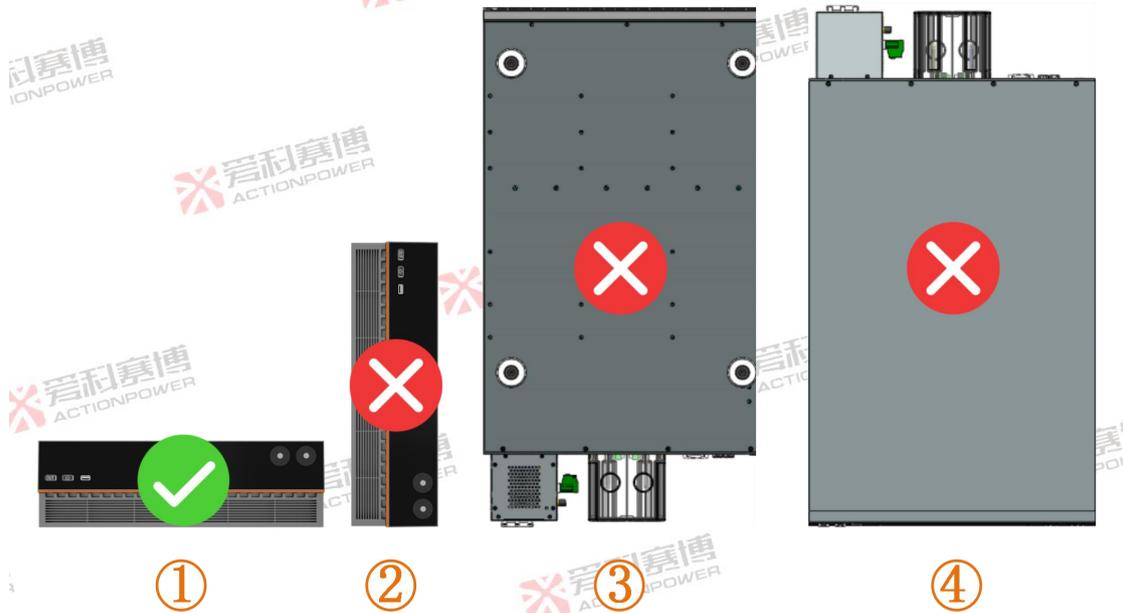

Figure 67-Product Placement
Position ① as shown in Figure 67 is the only correct way to place the product..